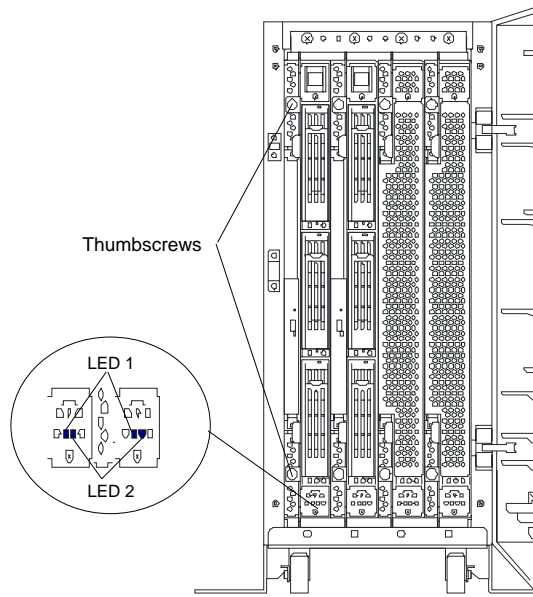

Figure 4-22. PCI Module Status LED Indicators
3. Ensure that the PCI module is off-line by viewing its status LED indicators (See Figure 4-22). The state of the status LEDs should be as follows:
5. Unscrew the knurled screws securing the locking handle to the PCI module. See Figure 4-22.